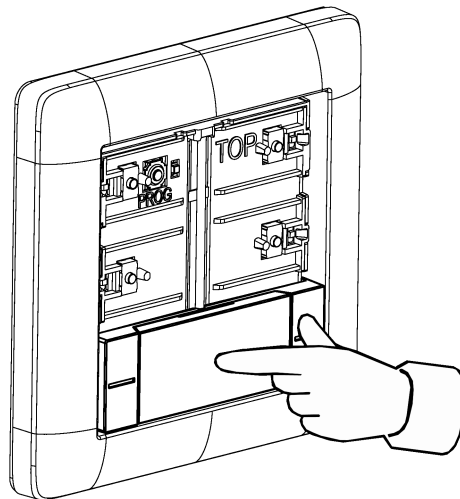

Figure 9: Press lightly in the middle of the rocker
- Press in the middle of the rocker (see figure 9).